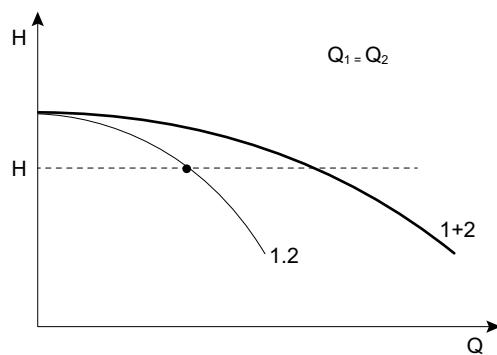

Fig. 7.3.3d Connection of two similar pumps
The Head (H) will always be constant in the pump installation. The capacity can vary depending on the pump sizes. (See Fig. 7.3.3d)